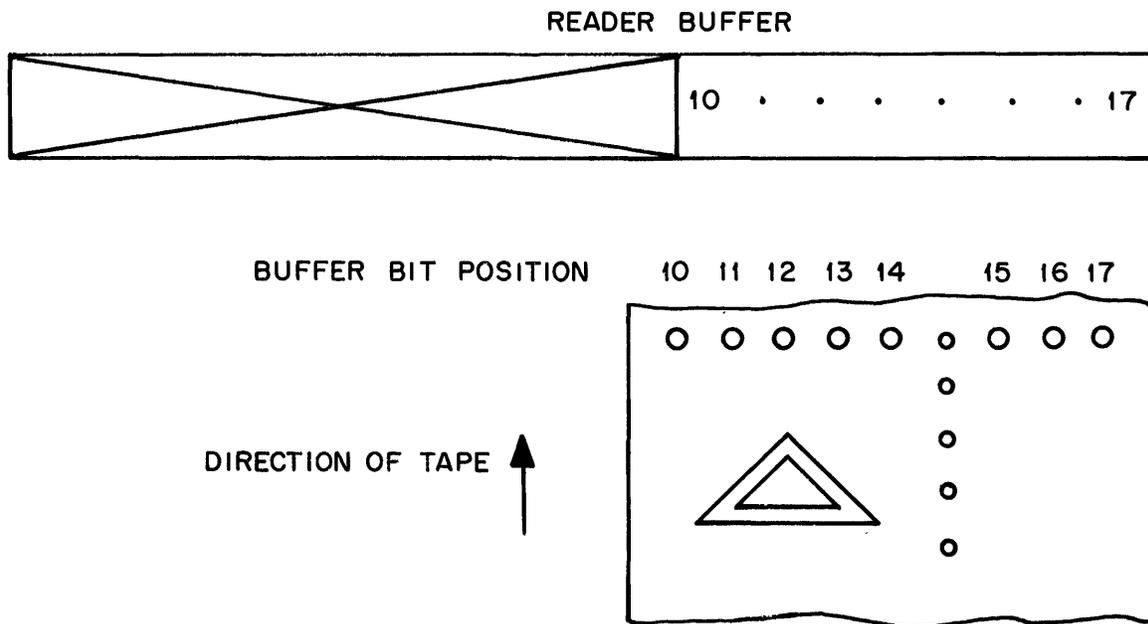

Figure 7-3 Alphanumeric Perforated Tape Format and Reader Buffer Bit Assignment
**ALPHANUMERIC MODE:** Each select instruction causes one line of tape, consisting of eight bits, to be read and placed in the buffer. Blank tape is ignored. The absence of a feed hole causes the character punched in that line to be ignored. See Figure 7-3.